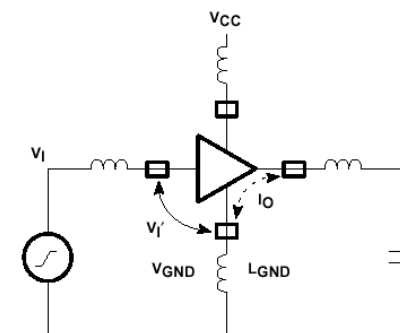

Figure 7.9 Input/output model with packaging effect
- These functional problems are due to voltage transients induced on the device's power system as the output load current flows through the parasitic lead inductances during switching (see Figure 7.9).